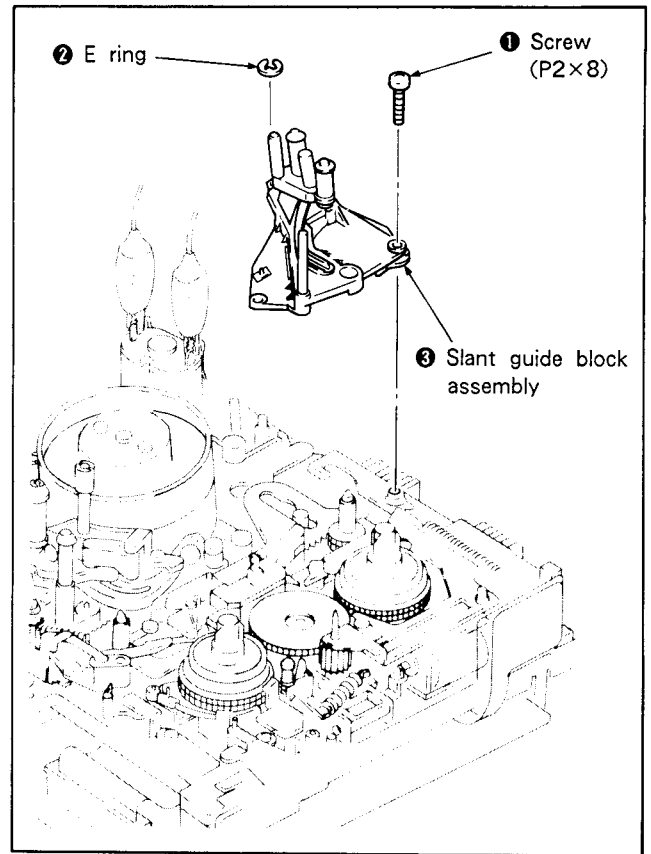

Fig. 7-26.
#### 1. Removal (See Fig. 7-26.)
- 3) Insert the E ring ❷ and tighten with screw ❶. (See Fig. 7-26.)